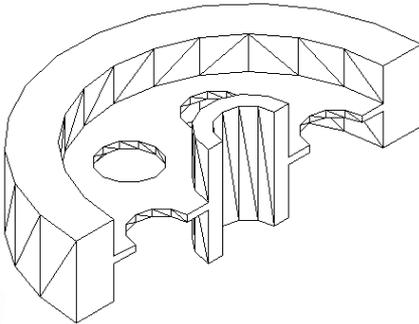

Figure 24-24: The solid after subtracting the extruded circle and doing a hide.
8. Use the **HIDE** command to hide the model. Your drawing should look like Figure 24-24.